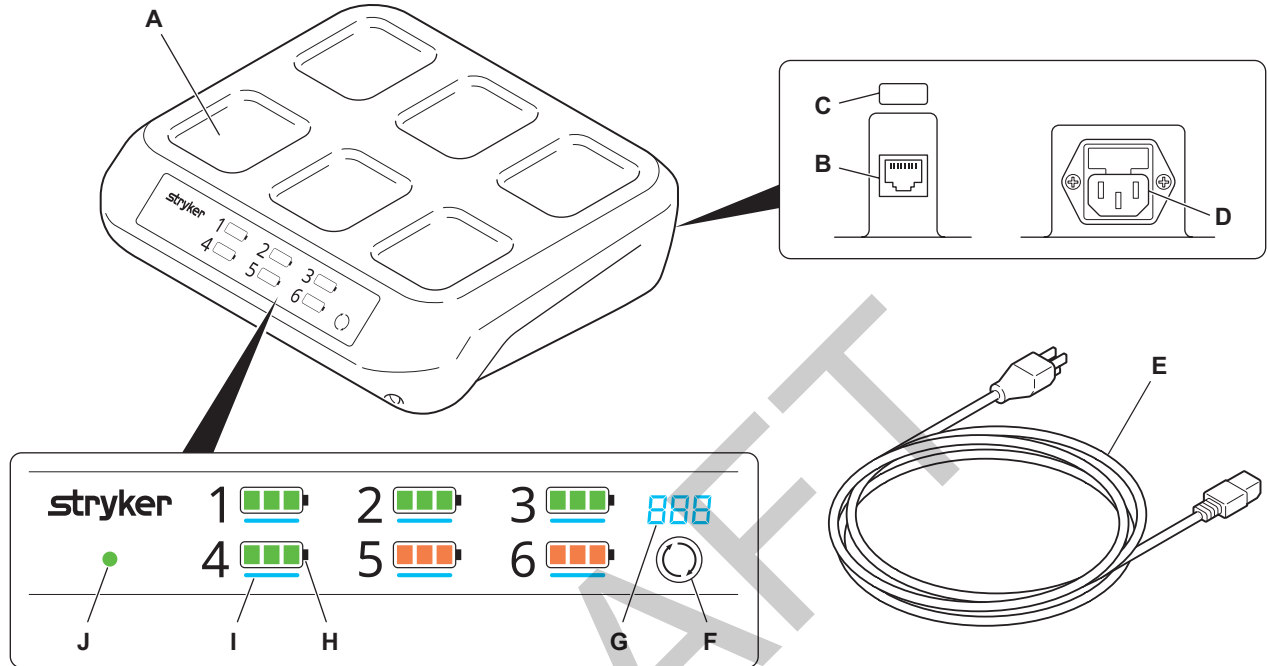

Figure 1 – Charger features
The System 9 Sterile Battery Charger (Figure 1) has 6 bays to charge System 9 Battery Packs (large or small) through inductive (wireless) charging. The battery packs can be charged before sterilization while (1) unwrapped or after sterilization while (2) wrapped in sterilization wrap. The charger has an illuminated display panel that shows charger, bay, and battery status, including cycle counts.